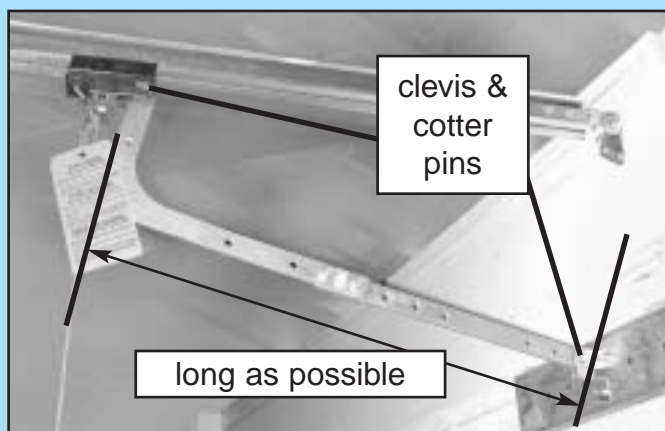

FIG. 2-12 Attaching door arms (1-piece doors).
- Straight arm to door bracket using clevis pin (24) and cotter pin (25) (**Fig. 2-12**).
- Curved arm to carriage using clevis pin (24) and cotter pin (25) (**Fig. 2-12**).
- Fasten arms together using 2 bolts (27) and nuts (28) (**Fig. 2-12**).